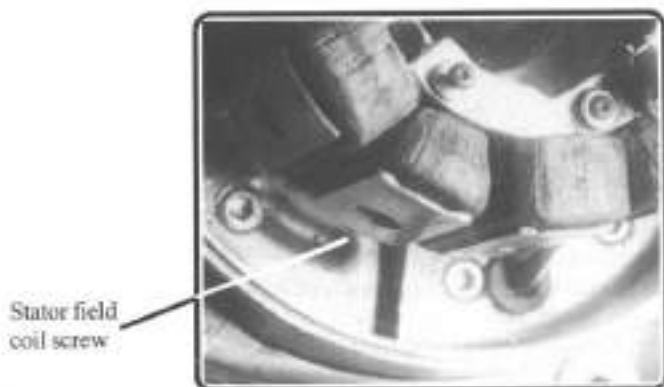

Figure 30. Stator field coils.
- 21.4. Check to see if any of the stator field coils are loose. If they are, tighten the screws shown in figure 30.